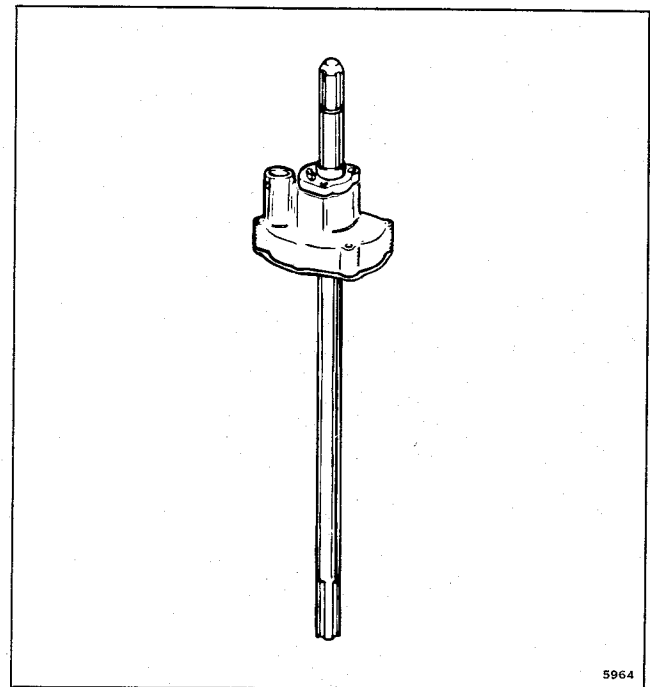

Figure 6-23. Removing Pump and Shaft
b. Remove four screws attaching impeller housing to upper gearcase. Lift off driveshaft and impeller housing assembly. See Figure 6-23. These may be further serviced as with the standard unit.